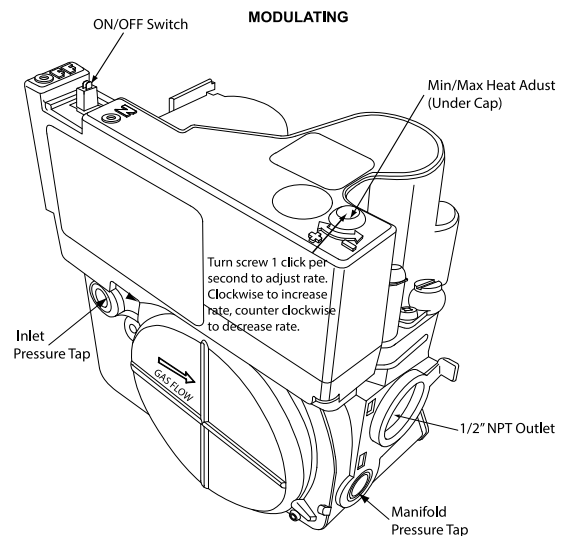

Fig. 65 – Gas Valve without Tower Pressure Ports
9. To adjust the Maximum Heat manifold pressure, slowly turn adjusting screw counterclockwise to decrease manifold pressure or clockwise to increase manifold pressure. Turn adjustment no more than one click per second until you obtain the required manifold pressure, see Fig. 65.
4. To adjust the Minimum Heat manifold pressure, slowly turn adjusting screw counterclockwise to decrease manifold pressure or clockwise to increase manifold pressure. Turn adjustment no more than one click per second until you obtain the required manifold pressure, see Fig. 65.